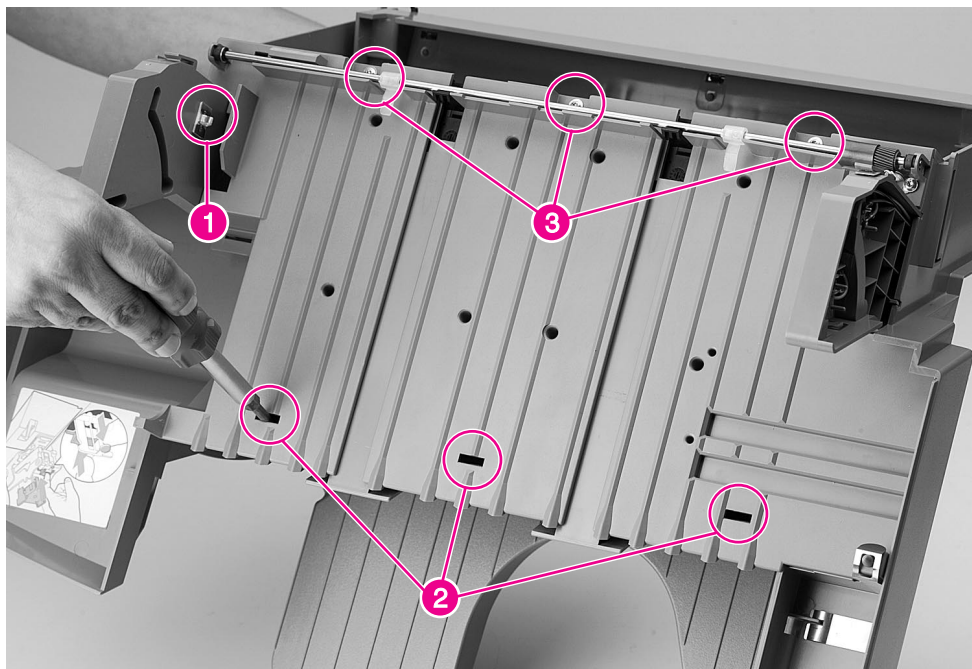

Figure 6-188 Stapler Bed Assembly
- 3 Remove the Stapler Unit Controller PCA (see figure 6-188 on page 375, callout 1).
- 7 Insert a flat-blade screwdriver into the top of the Stapler Bed Assembly and push gently to release the latches in the front of the stapler bed (see figure 6-188 on page 375, callout 2).
- 8 Remove 3 Torx screws that join the stapler bed with the rest of the unit (see figure 6-188 on page 375, callout 3).
- 3 Remove the Stapler Bed Assembly (see figure 6-188 on page 375).